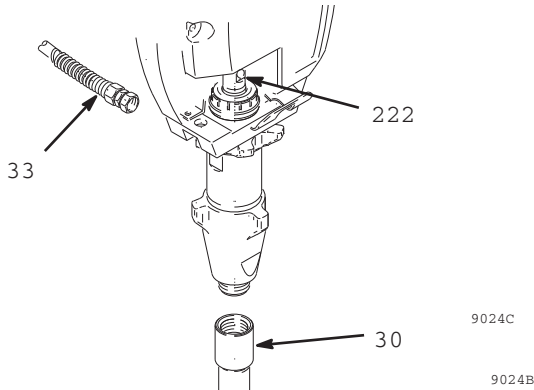

FIG. 23
2. Cycle pump with piston rod (222) in lowest position (FIG. 23).